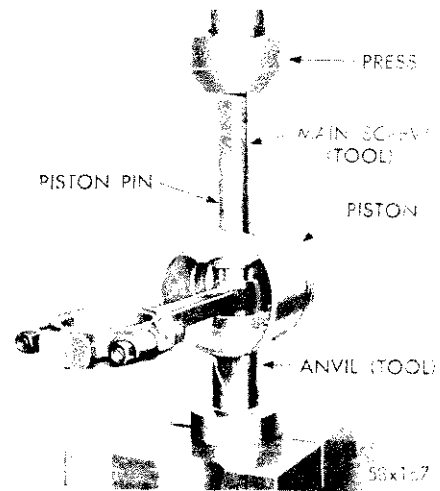

Fig. 44—Installing Piston Pin in Connecting Rod
(8) Install the nut on puller screw to hold assembly together. Place assembly on a press, as shown in Figure 44.
(9) Press in the piston pin until piston pin bottoms on the pilot properly positioning the pin in the connecting rod.